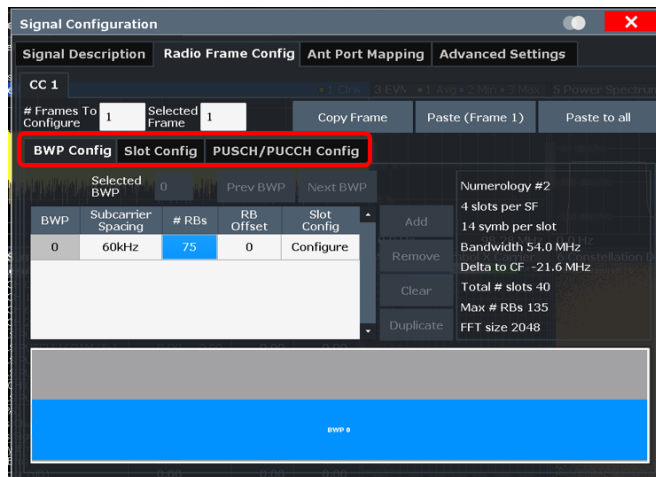

Fig. 2-31: Radio Frame Configuration window in the 5G NR mode on the FSW
- i From the Radio Frame Config window, the sub categories need to be configured as shown in Fig. 2-31